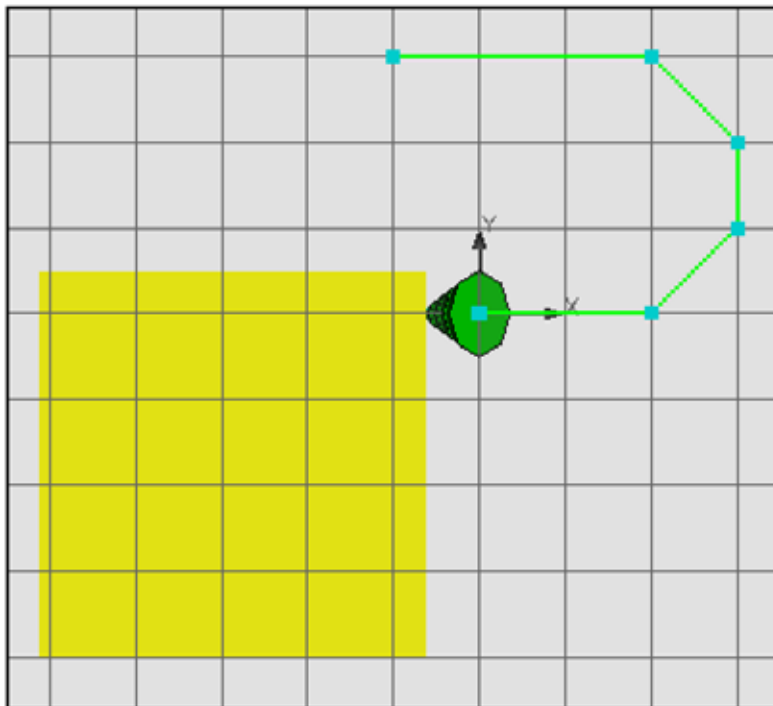

Figure 174: Runner system layout
6. Create the runner system as shown in Figure 174.